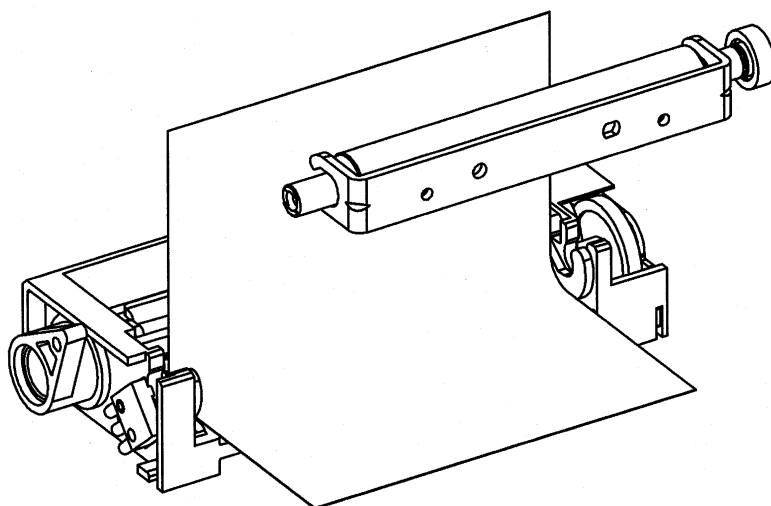

Figure 8-2 Loading Paper (2)
- Insert the paper vertically into the printer. (See **Figure 8-2**). Pull the paper through the paper outlet and replace the platen block into the printer mechanism. Make sure that the platen block locks with a click.